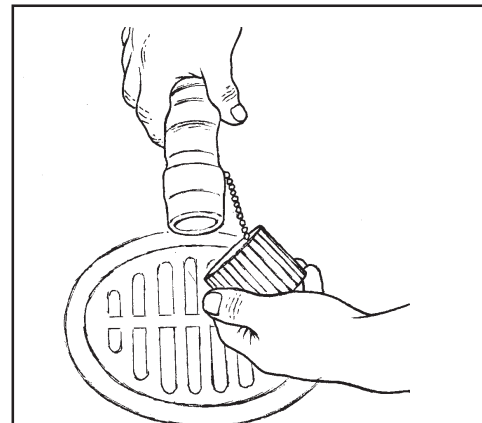

Figure 34
- 2.) To open the valve completely, turn the housing fully to the left. Pull the housing off of the valve (Figure 34).